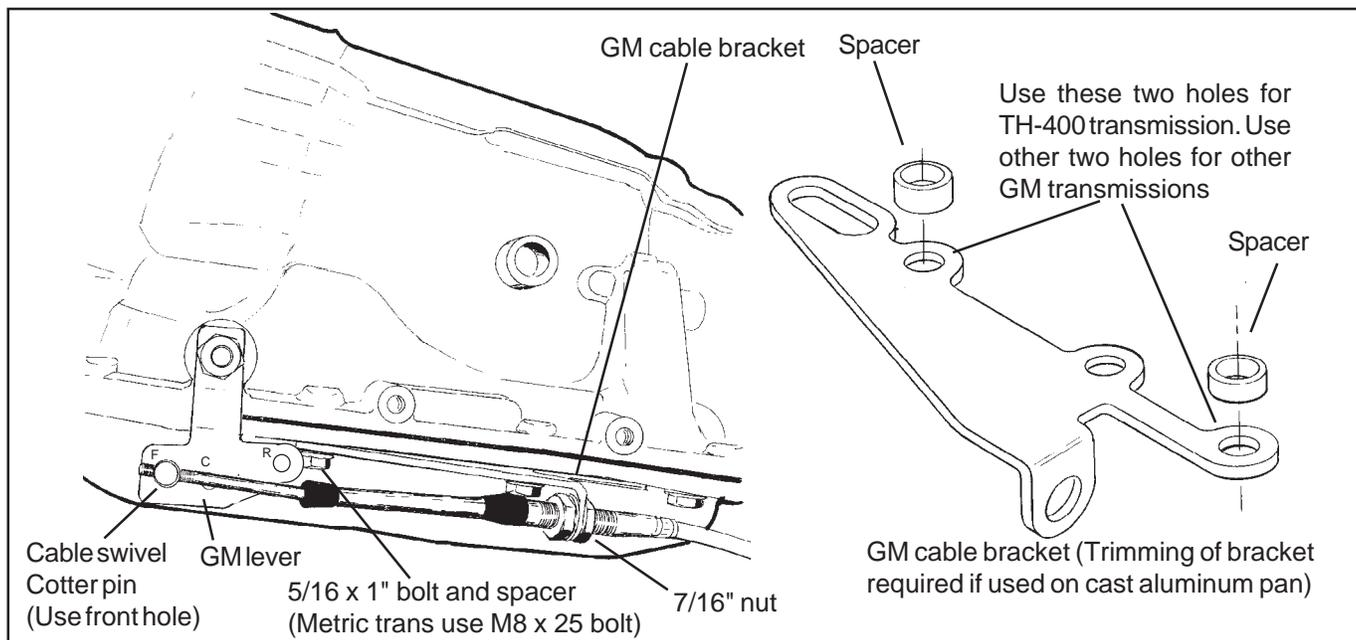

Figure 5
**STEP 10.** If you have not already done so, remove the stock selector lever nut and the selector lever from the transmission. Discard the stock lever and the stock shifter linkage. Install the **B&M** selector lever in position using the stock selector lever nut (See Figure 5). Torque the nut to 23 lb.ft. The lever should move smoothly from front to rear with a positive click in each gear position.
**STEP 11.** Remove the two transmission oil pan bolts from the middle of the left side of the oil pan. Install the cable bracket in position (See Figure 5). The bracket must be installed with two spacers between the pan and the bracket. (If your transmission is equipped with a cast aluminum oil pan, these spacers should be omitted. With a TH-400 with a cast aluminum oil pan the cable bracket may have to be modified.) Install the two 5/16-18 x 1.00" bolts (Metric transmissions use the two 8mm x 25mm bolts) supplied and tighten to 12-13 lb.ft. Do not over-tighten as this can damage the pan gasket.